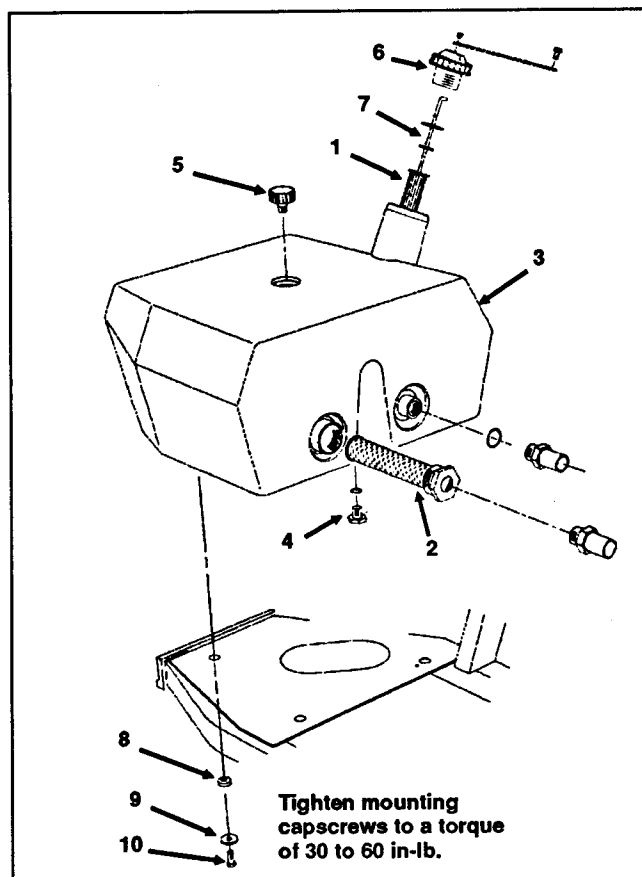

Figure 101
1. Clean filler screen, suction screen and reservoir with clean solvent (Fig. 101).